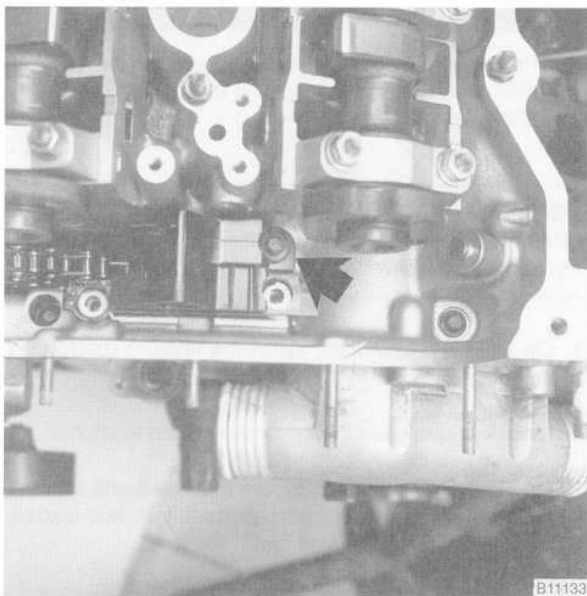

Fig. 18. Timing chain guide mounting bolt (arrow).
33. Remove the remaining Torx bolt from the timing chain guide. See Fig. 18.